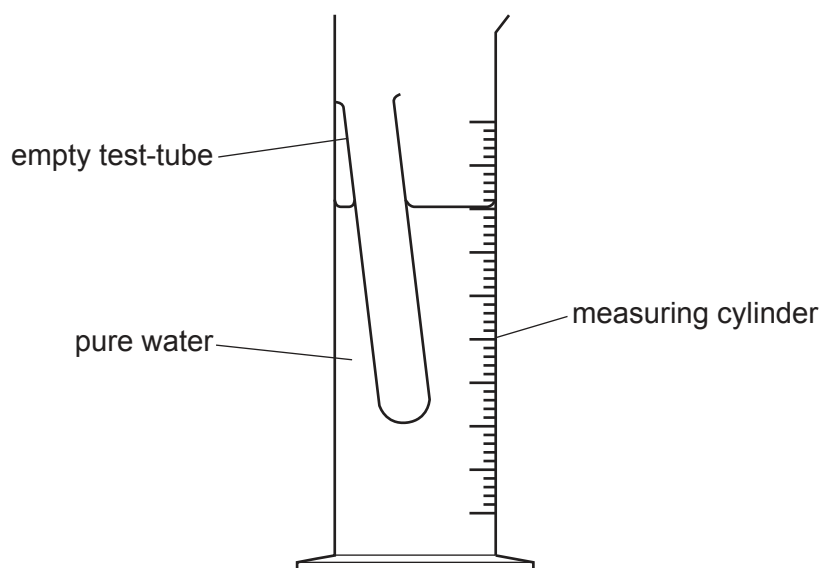

Fig. 4.1
- 4 Fig. 4.1 shows an empty test-tube, floating in a measuring cylinder containing pure water. If the same test-tube is put into a measuring cylinder containing a solution of salt and water it will float with a smaller length of the test-tube below the surface. This is because the salt solution has a greater density than pure water.